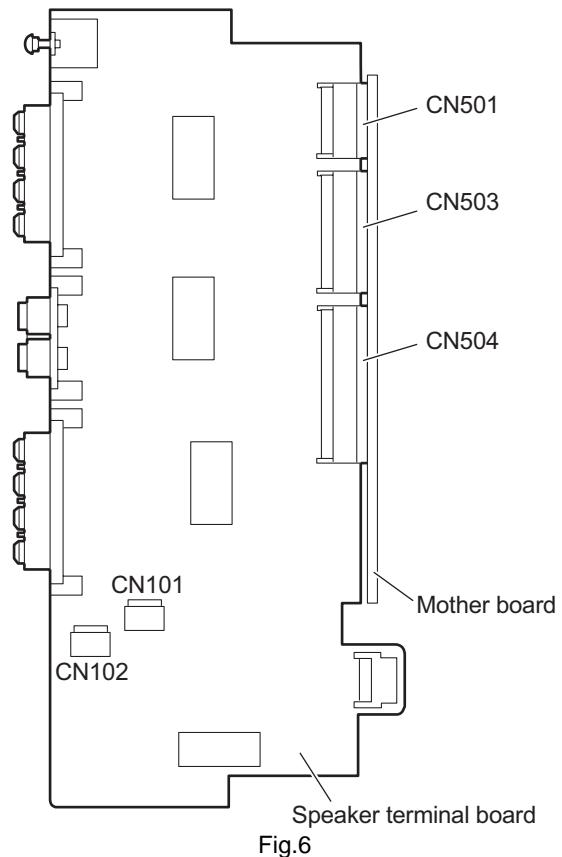

Fig.6
- (3) Disconnect the speaker terminal board from the connectors (CN501, CN503, CN504) on the mother board. (See Fig.6.)